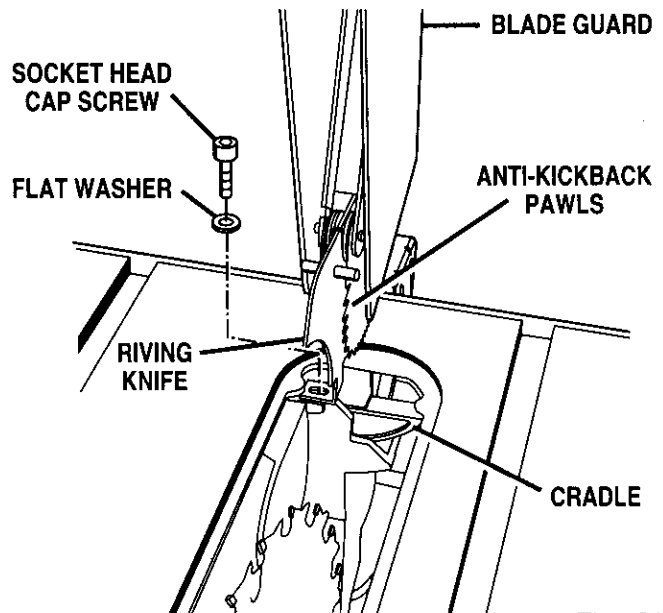

Fig. 31
- Insert the third socket head screw and a flat washer into the screw hole in the cradle under the throat plate. Securely tighten with a 5 mm hex key. See Figure 31.